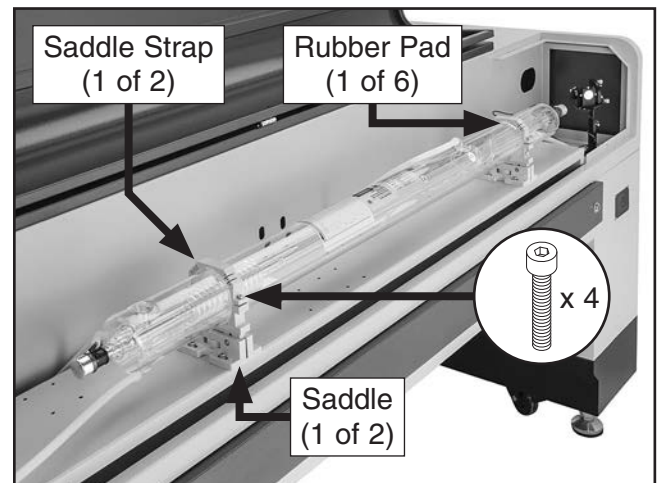

Figure 102. Laser tube saddles installed.
22. Clean rubber pads on saddle straps and place on laser tube above saddles, as shown in **Figure 102**.